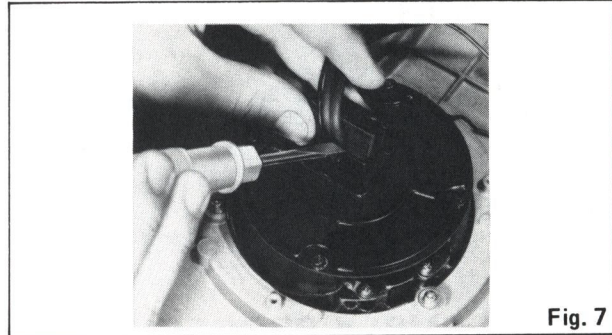

Fig. 7
18. Remove phono cord clammer as shown in Fig. 7.